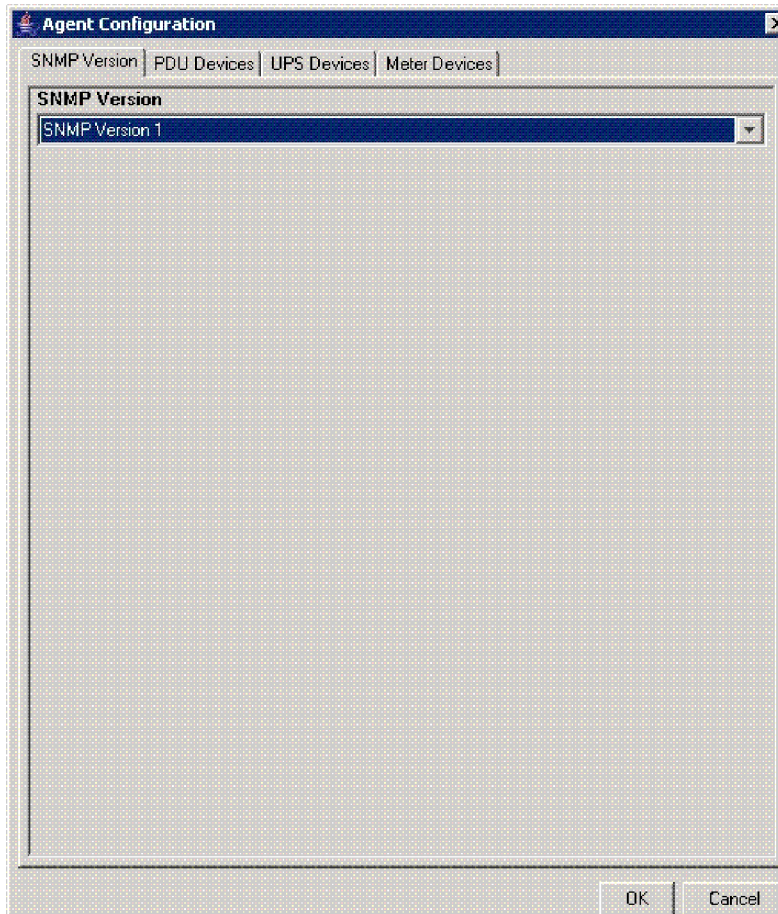

Figure 3. Selecting the SNMP version for the Eaton Power Xpert Agent
**Note:** All devices that are managed must use the same SNMP version. You may use SNMP Version 1, SNMP Version 2c, or SNMP Version 3, depending on the configuration of the Eaton device. The SNMP Version 1 is selected in Figure 3: